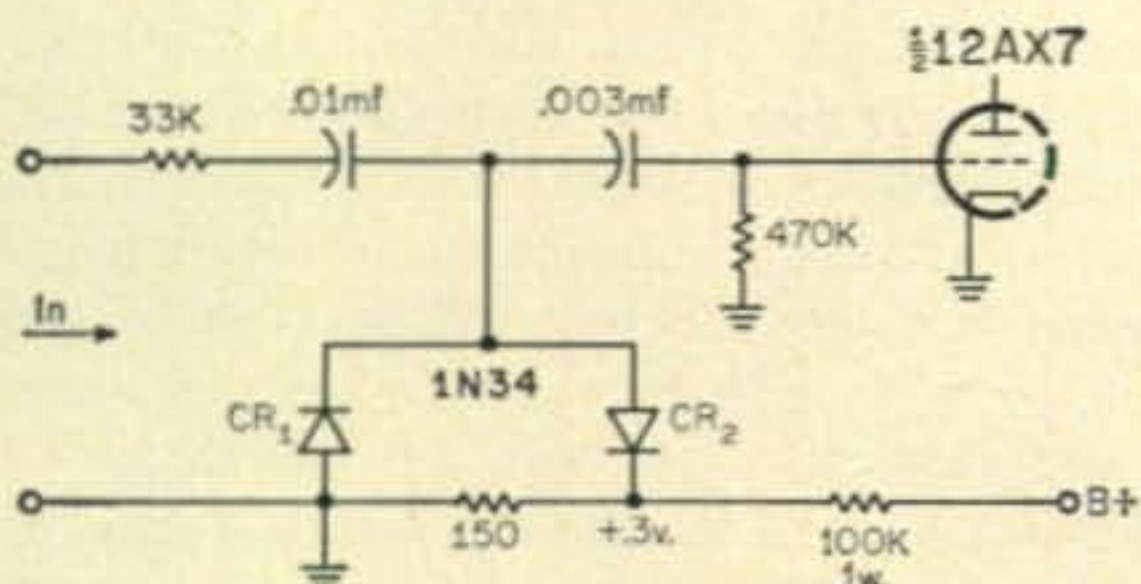
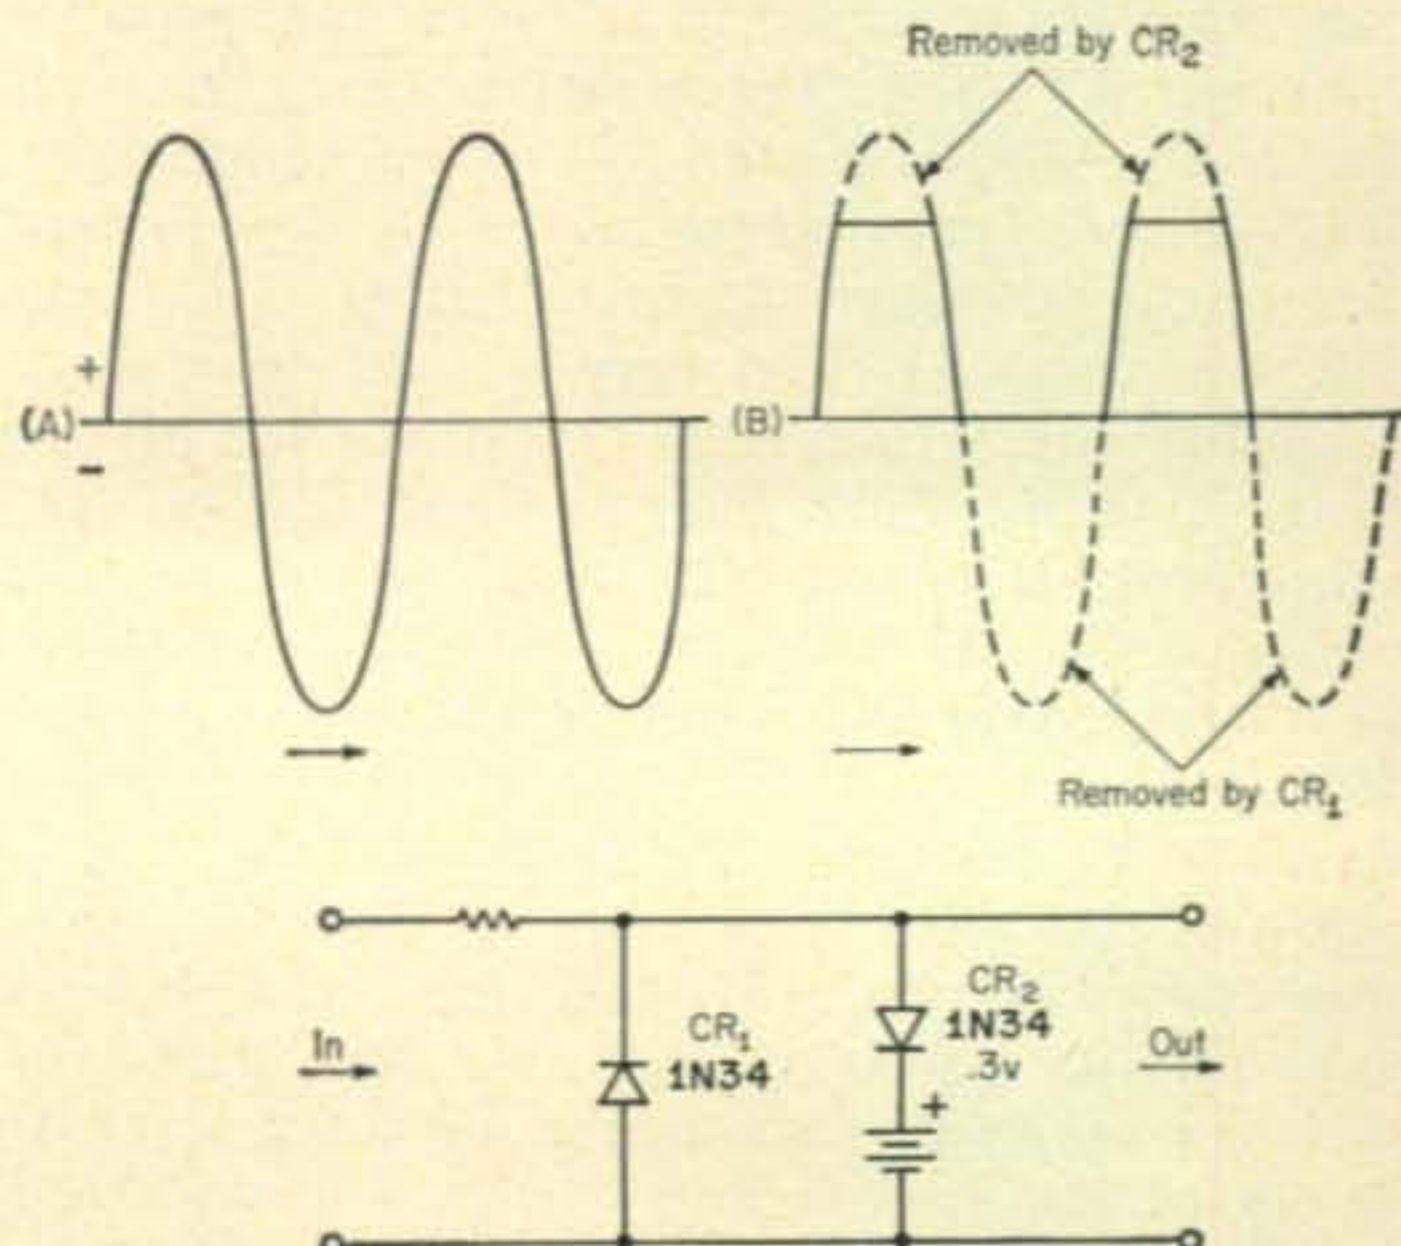

Fig. 42—Input circuit of the W2PAT converter shows the two 1N34 diodes used for clipping.
Fig. 43—Shown above is simplified version of the diode circuit shown in fig. 42.
The details of the input circuit of the W2PAT converter in fig. 42, showing diodes CR_1 and CR_2 . Diode CR_2 is back biased 0.3 volt. The action of these two diodes limits the audio voltage to the grid of the 12AX7 tube to about 0.6 volt even when the audio voltage applied to this circuit is as high as 30 volts. The limited voltage applied to the grid of the 12AX7 varies from about 0.15 volt to 0.6 volt, for an input voltage variation of about 1 volt to 30 volts from the receiver output. A simplified version of the diode portion of the circuit of fig. 42 is shown in fig. 43. The wave from the receiver to the input of the limiter-clipper is shown in (A) of fig. 43 and
the wave at the output of the limiter-clipper that is applied to the grid of the 12AX7 tube is shown in (B) of fig. 43. It will be noted that CR_1 removes the negative half cycles of the wave and that CR_2 clips off the top portion of the positive half cycles of the waves as shown in (B). Further inspection of (B) shows that the wave is now virtually a square wave and considerably reduced in amplitude. In practice the forward resistance of CR_1 is not zero, so not all of each negative half of the wave will be clipped. For the same reason all of that portion of the halves of the wave beyond the back bias of 0.3 volt will not be clipped, so in practice the output from this limiter-clipper circuit is almost 0.6 volt for an input voltage of 30 volts, as previously stated.
The limiter-clipper-amplifier functions of these two stages, especially the amplifier action, should be well known to most readers. However, it might be well to briefly cover the operation of triode tube clipper circuits. The basic triode clipper circuit is shown in its simplest form in fig. 44. When the positive peak of the input voltage wave exceeds the negative voltage of the bias battery C the net voltage on the grid is positive and grid clipping takes place. This action is similar to the diode clipping action on positive peaks just described and graphically illustrated in (B) of fig. 43. Negative peak clipping will occur when the input voltage is sufficiently large so that on negative peaks the negative signal voltage plus the negative bias voltage C, bias the tube to cutoff. That part of the negative half cycle, during which cut off condition exists does not appear in the output. Obviously, triode tube clipping has an advantage over diode clipping; you may accomplish clipping and obtain amplification of the signal at the same time. Although the output signal has been clipped, it is possible, with a triode tube clipper, for the output to exceed the amplitude of the input signal.